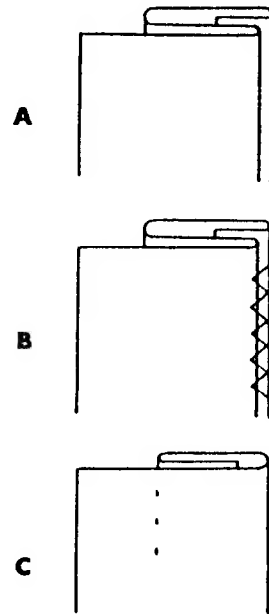

Fig. 42
4. Fold the material into the size of the hem desired and fold back as in Fig. 42 A with a $\frac{1}{4}$ " overlap on the bottom fold of the edge.
5. Proceed to sew down the fold as in Fig. 42 B.
6. After stitching is finished, unfold the material as shown in Fig. 42 C and you will have a blind stitch hem.